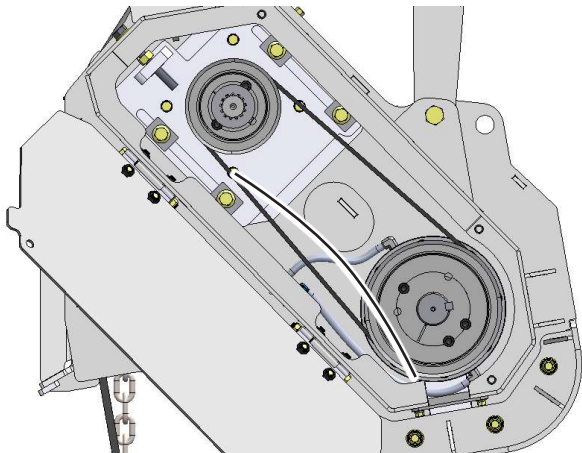

Figure 16
5. After replacing the drive belt, turn the tension bolt clockwise to tighten the belt to the specified tension. See "Figure 16" on page 34.